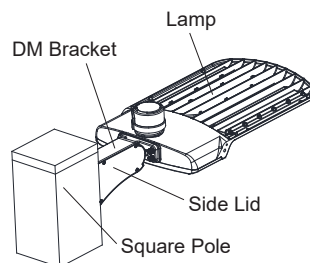

Figure 19
Step 2: Put the connected wire into the junction box, then cover the junction box.(Figure 19)